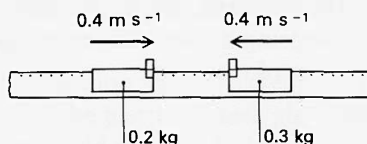

Figure A121
- 53(P)** Two air track vehicles with masses and velocities as shown in figure A121 move freely together and adhere on impact.